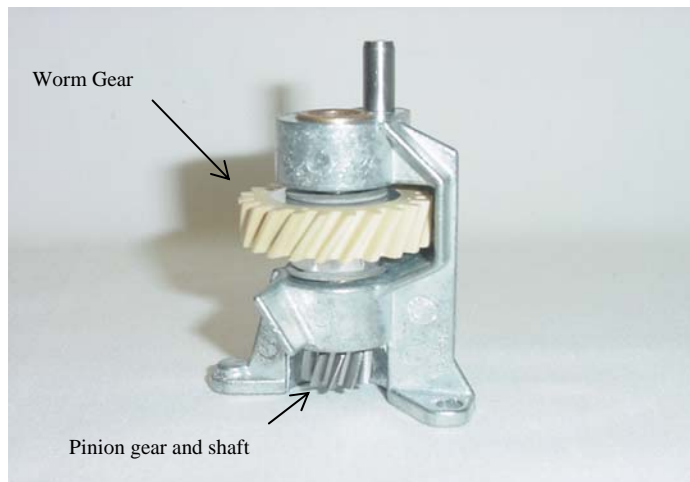

Fig. 56 Check worm gear and pinion before reassemble.
H. Check the worm gear and pinion gear (Fig.56).